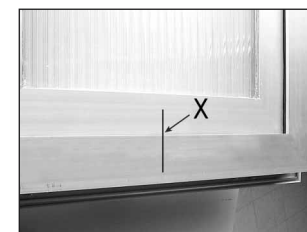

Fig. 7
2. Mark centre line "X" on sash and frame (Fig. 7).